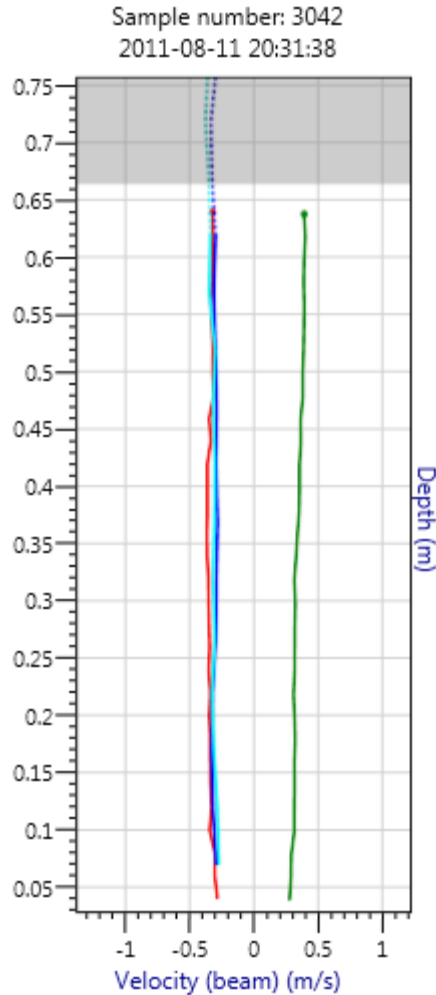

Figure 72. Profile chart
- Figure 72 presents velocity profile data.